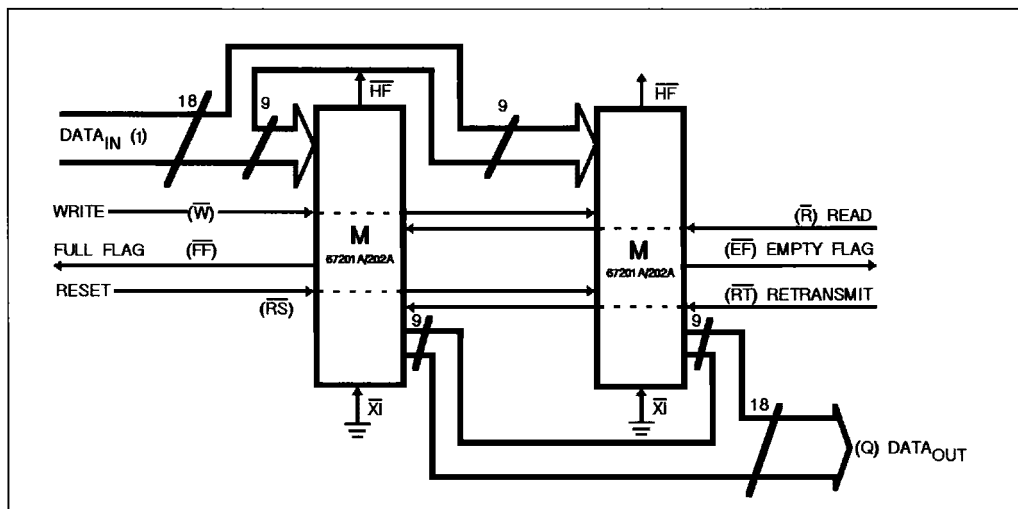

Figure 3 : Block Diagram of 512 / 1024 x 18 FIFO Memory Used In Width Expansion Mode.
device. Figure 3 demonstrates an 18-bit word width by using two M 67201A/202A. Any word width can be attained by adding additional M 67201A/202A.
- 7. For Flag detection see section on Width Expansion and Figure 3.